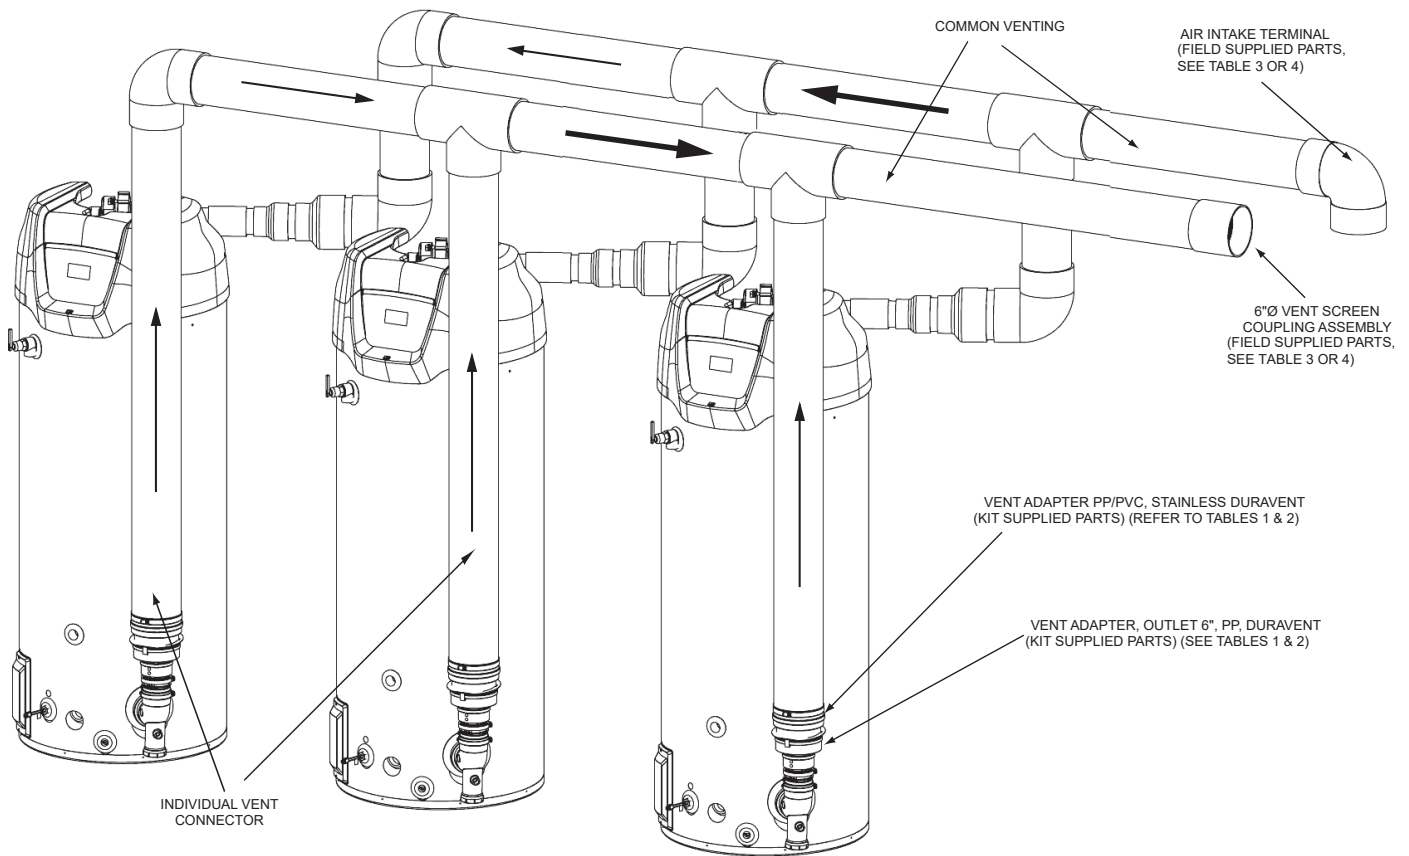
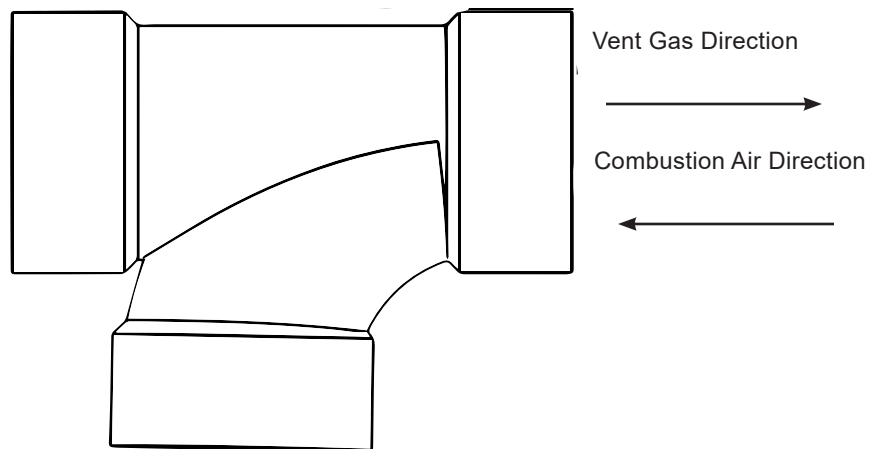

Figure 4. Definition of System Sections - PVC
Figure 5. Sanitary TEE
- No change to the system layout, as shown in *Figure 4* (page 7), except as explained in these instructions.
The common vent is the section of the vent and air inlet piping where the gases from all of the heaters flow together, See *Figure 4*. The maximum equivalent length straight pipe and elbows of the common sections is 50 feet. The minimum equivalent length of the common sections is 3 feet. Each 90° elbow is equal to 5 feet and a 45° elbow is equal to 2½ feet. The maximum number of elbows is three. The air intake terminal (90° elbow) is not included in the equivalent length.
Figure 4 shows the system constructed with straight tees. However, you can also use sanitary tees, shown in *Figure 5*, as an acceptable substitute, provided they are arranged so that the flows are in the directions indicated in *Figure 5*.
The individual vent connectors attach the heaters to the common vent. The exhaust vent connectors are attached to the water heater with the parts in the kit. The air inlet connectors are attached with PVC reducing fittings to the heater's PVC coupling. As shown in *Figure 4*, the individual vent connectors consist of vertical and horizontal sections that connect the heater outlets to the common vent. Using different lengths of pipes, the height of the horizontal sections may be adjusted to be from 80" to 110" from the bottom of the heater to the center-line of the horizontal section. The combustion air and exhaust vent sides of the system may be different heights, but each must meet the 80" to 110" height requirement.
The common sections are the pipes that carry the vent gas or intake air to and from the outside. Each pipe must extend from the tee over the heaters to the outside/ outdoors etc. It is preferred to run the air and vent sections next to each other, over a similar path as shown in *Figure 4* (page 7). However, differences may be needed in the field. The requirements for both the air intake and vent common sections are: